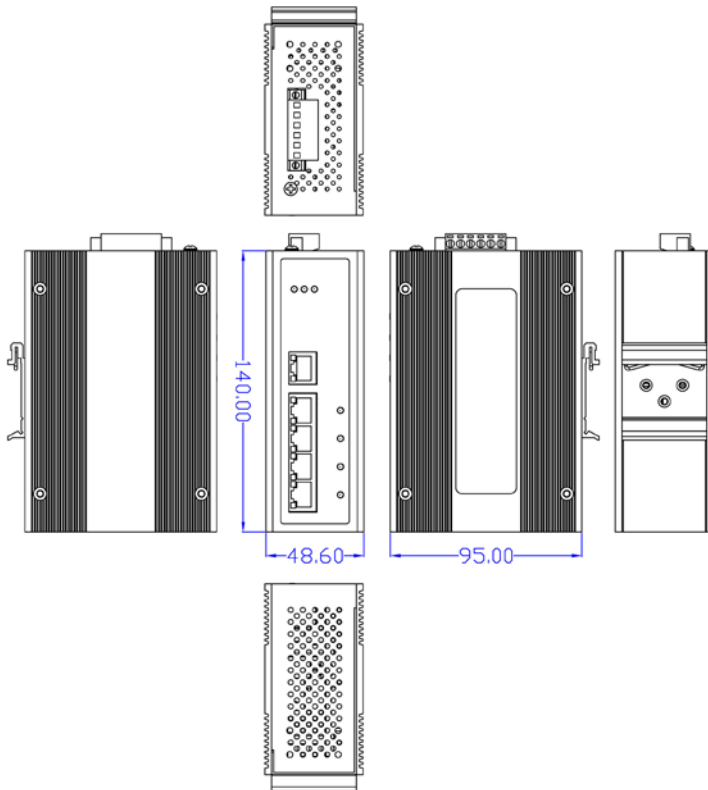

Figure-1: Mechanical Dimensions
5 port 10/100T(X) with 4 High-Power (25W) PoE ports Industrial Switch dimensions (W x D x H) is 48.60mm x 95mm x 140mm, the detail dimensions as **Figure-1**